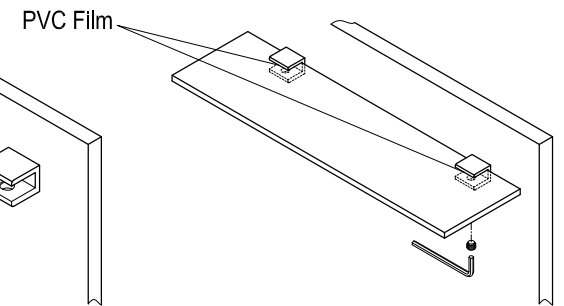

Fig. 6
6. Place the glass shelf on the brackets and insert the PVC films between the brackets and the glass. Secure it by tightening the set screw with the included Allen wrench (fig 6).